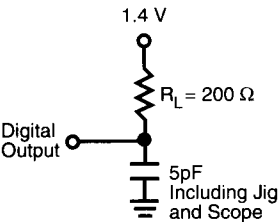

Figure 1c
5. Transition is measured ± 200 mV from steady state output voltage with $C_L = 5$ pF as shown in Figure 1C. This parameter is guaranteed and not 100% tested.